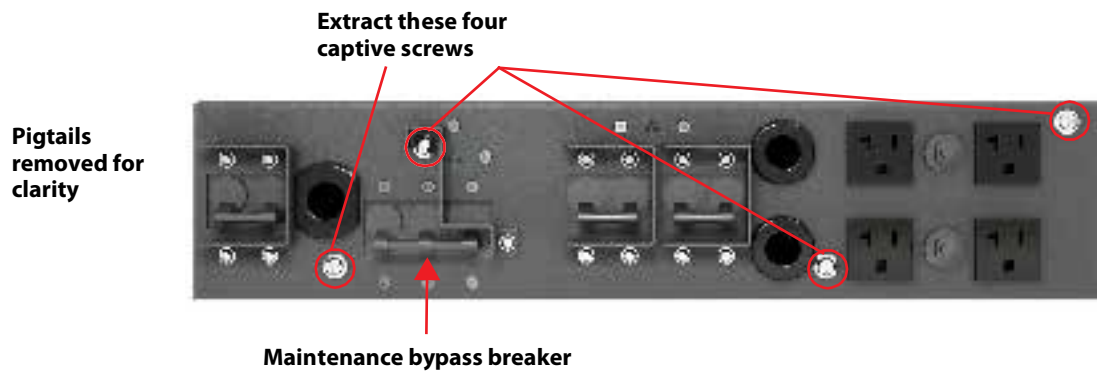

Figure 19: Power distribution box removal from S4K4U6000C
2. Loosen the captive screw over the maintenance bypass breaker (see Figure 19 for the breaker's location).